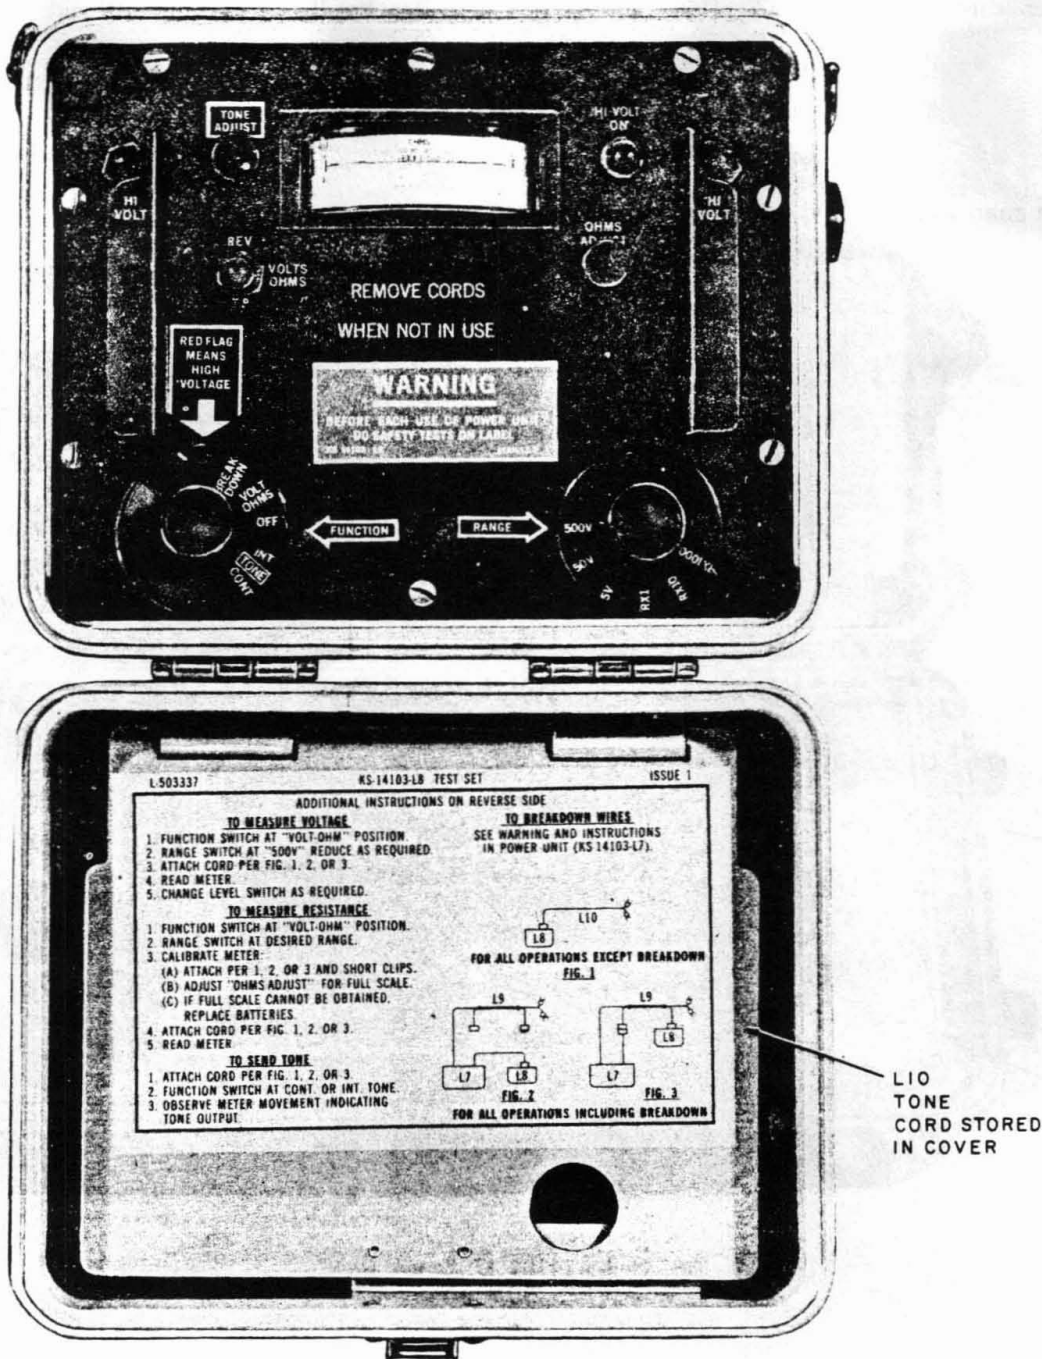

Fig. 2—KS-14103 L8 Control Unit
3.02 The L8 control unit (Fig. 2) is 11-1/4 inches long, 9 inches wide, 6-5/8 inches high and weighs 9-3/4 pounds complete with batteries and removable lid which also provides storage space for the L10 tone cord. One KS-14368 (1-1/2 volt) battery, one KS-14369 (45 volt) battery one KS-14196 (45 volt) battery are required for power and must